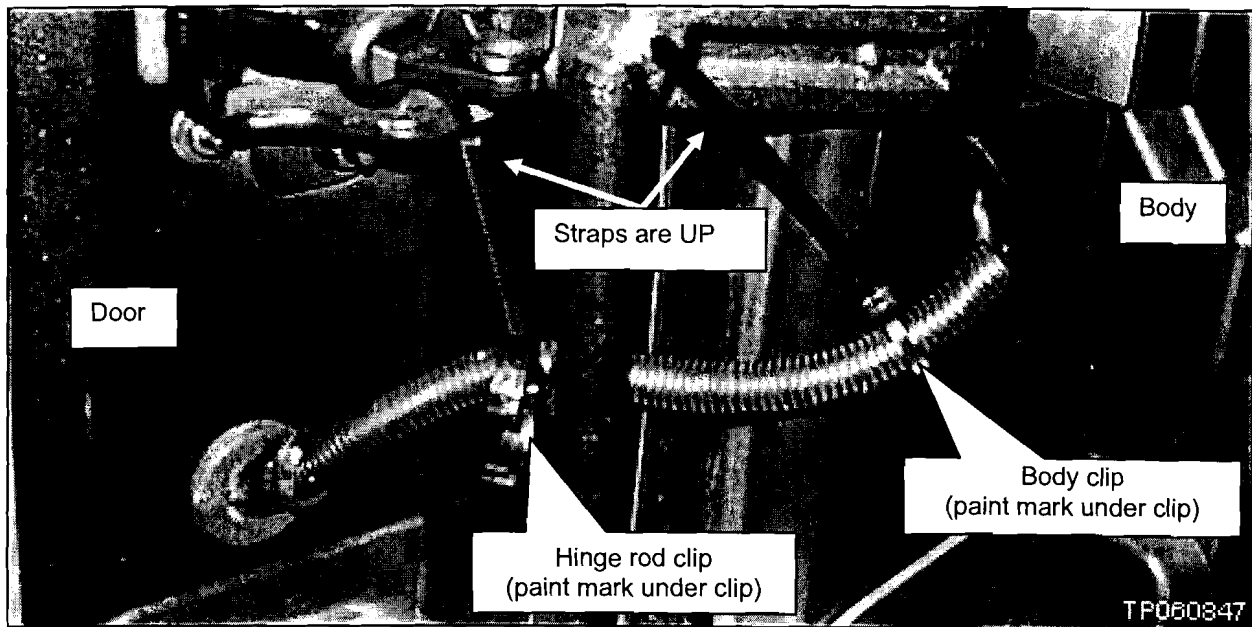

Figure B7
10. Install the new body clip over the paint mark on the body-side (see Figure B7).
- Feed the strap through the buckle so the strap is UP as shown in Figure B7.
11. Install the new hinge rod clip over the center paint mark (see Figure B7).